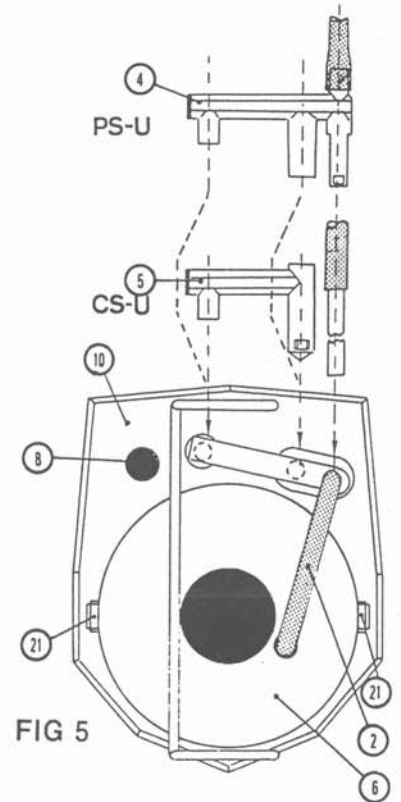

FIG 5
To use the constant volume sample (CS) method, use the CS-U unit (Fig 5, item 5) and adjust the sample size by moving the plastic tube up and down as demonstrated in Fig 12. The sample volume can be adjusted from 5 – 80 ml.
To use the proportional volume sample (PS) method, use the PS-U unit (Fig 5, item 4).
- B. Release the two springs (Fig 5, item 21) and remove the top chamber.